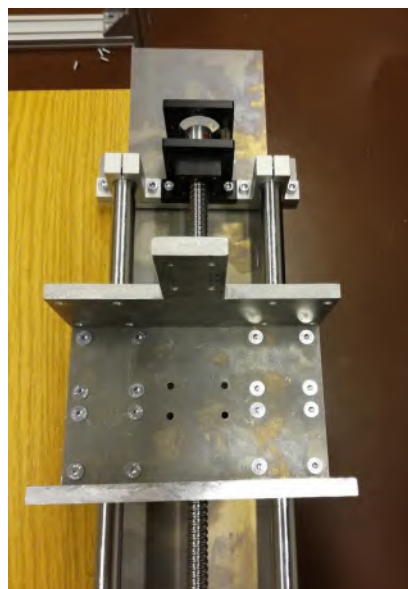

Figure 28: Assembled z-axis
- 11.3. Attach plates 5, 6 and 7 using the M6x20 screws to the linear bearings from the Easy-Mechatronics system in step 9 (z-axis). Make sure that the linear bearings are positioned as in Figure 24 (pointing away from plate 8 & 9). Plate 5 should be pointing towards the motor holding block (Figure 28).